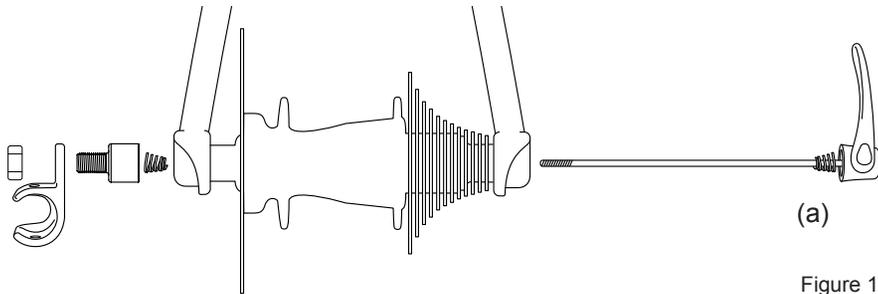

Figure 1
3. Make sure the cone spring (a) is on the skewer and in the correct orientation with the large end facing the QR lever and the small end facing your frame. See Figure 1.